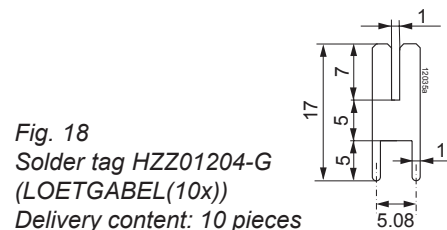

Fig. 18
- Solder-tags for direct mounting of the regulator to a PCB board; see fig. 18.